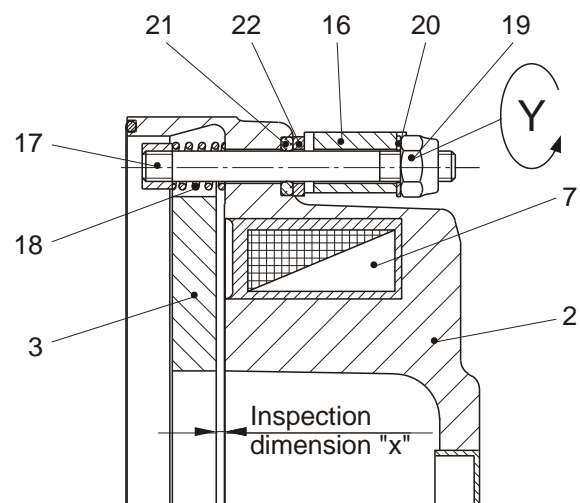

Fig. 6 Type 891.\_ \_ \_ .1
- Put the thrust springs (18) onto the threaded bolts (17). The threaded bolts (17) come manufacturer-side assembled with a key as tension element and secured with adhesive up to Size M60. This connection must not be loosened.
- Push the threaded bolts (17) with thrust springs (18) from the inside (you should be facing the magnetic coil (7)) into the hand release bores in the coil carrier (2).
- Push the O-rings (21) (only on sealed hand release, Type 891.\_ \_ \_ .1/ Fig. 6) over the threaded bolts (17) and push them into the coil carrier (2) recesses. Avoid crushing the O-rings (21).
- Push the intermediate plates (22) (only on sealed hand release, Type 891.\_ \_ \_ .1 / Fig. 6) over the threaded bolts (17).
- Mount the switch bracket (16), add the washers (20) and lightly screw on the self-locking hexagon nuts (19).
- Tighten both hexagon nuts (19) until the armature disk (3) lies evenly against the coil carrier (2).
- Loosen both hexagon nuts (19) by "Y" turns (see Table 1), thereby producing an air gap between the armature disk (3) and the coil carrier (2). This gives you inspection dimension "x".